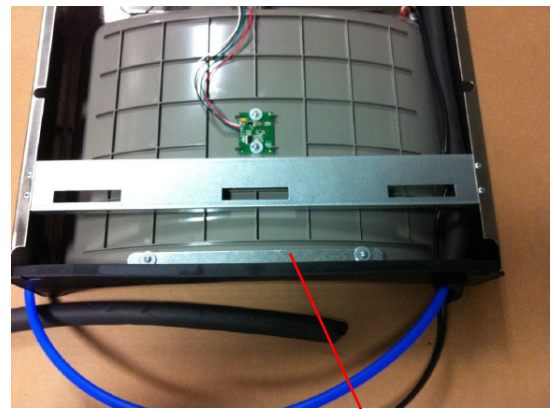

Fig. 11
- 6) Install gasket on bottom of bottle filler tower with gasket support bracket, (2) washers, & (2) screws (See Fig 11).